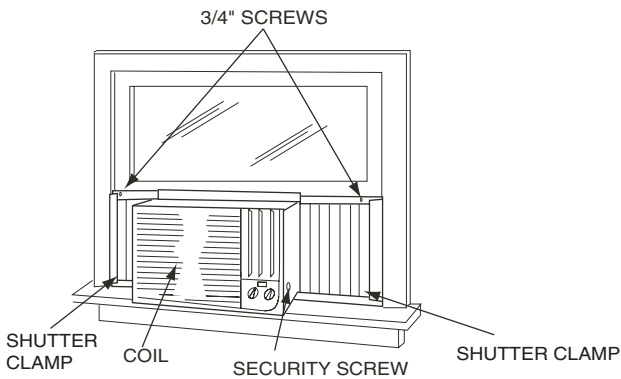

FIGURE 16 — SIDE SHUTTER INSTALLATION
18. Drill the holes marked in Step 16 with $\frac{1}{8}$ -in. drill bit. With the wing panels expanded, secure the wing panels with two $\frac{3}{4}$ -in. screws and shutter clamp provided (each side). See Fig. 16.